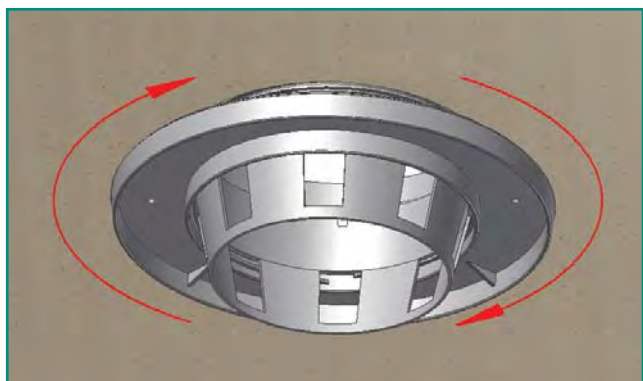

Figure 3: Screw mounting ring on rear of basket
- 4- Screw the mounting collar on to the rear of the mounting frame, ensuring that the flat face of the mounting ring is facing the tile face, as shown in (Figures 3).